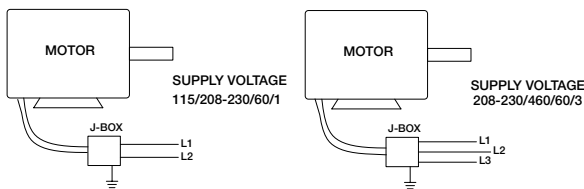

Figure 3 - Typical Wiring Diagram
10. Mount and wire safety disconnect switch under motor cover. Wire control switches at ground level, refer to Figure 3.